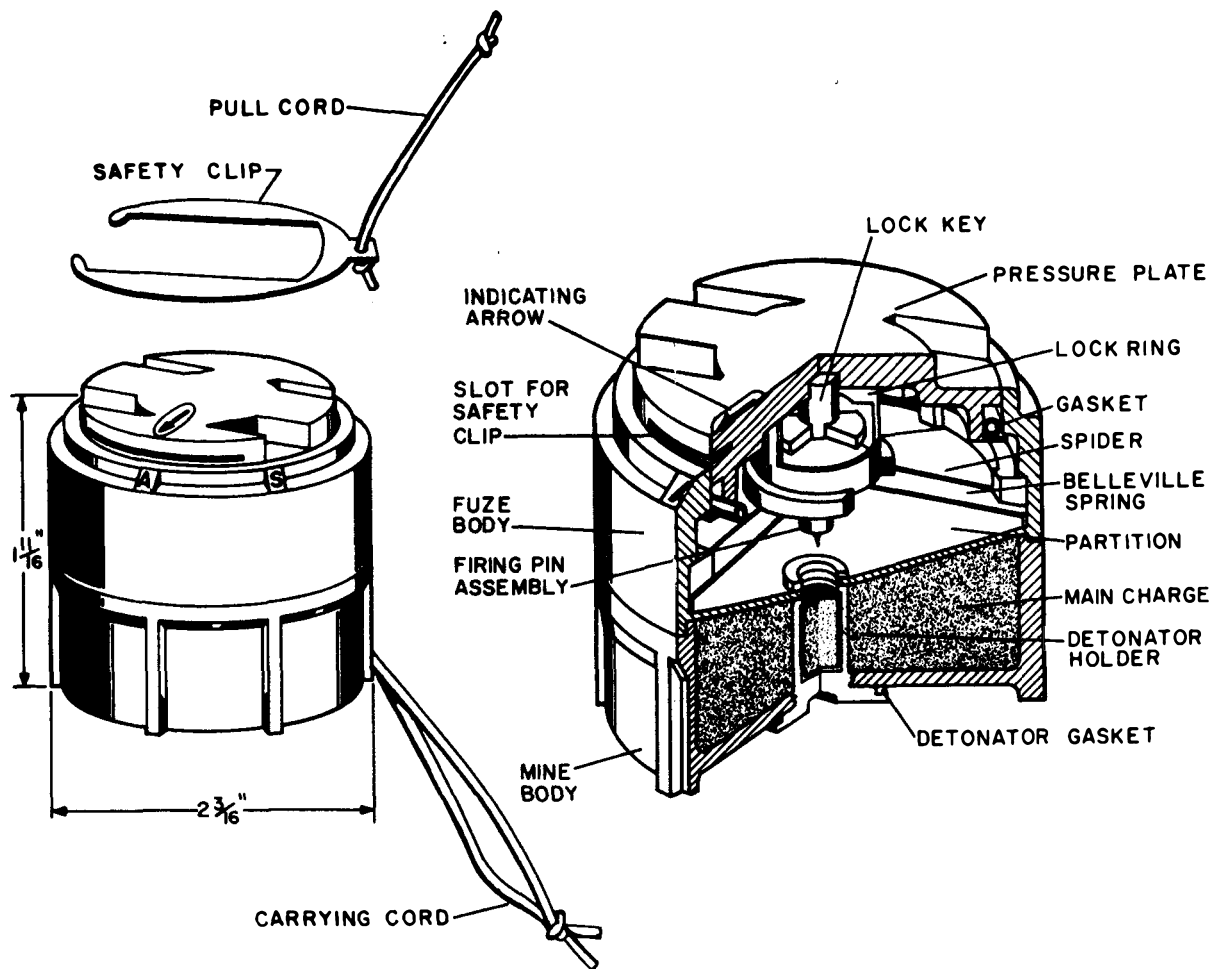

Figure 7-1. M14 antipersonnel mine.
1-1. Type: Mine, AP, (NM) M14 (reference figure 7-1).